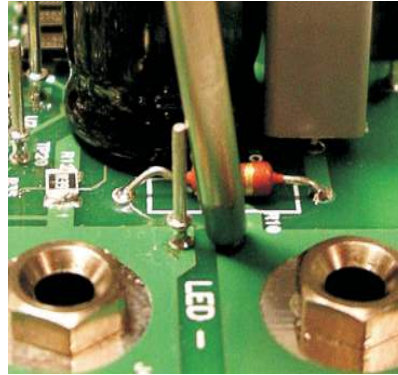

Figure 4. Typical Example of Tip and Barrel Measurement Technique
1. Expose the ground barrel of the scope probe. Insert the tip of the probe into the plated via located on the V_{OUT+} pad of the EVM (TP1) and lean the probe so that the exposed ground barrel is resting on the test point on the V_{out-} pad of the EVM (TP3) for a tip and barrel measurement as shown in the example depicted in Figure 4.